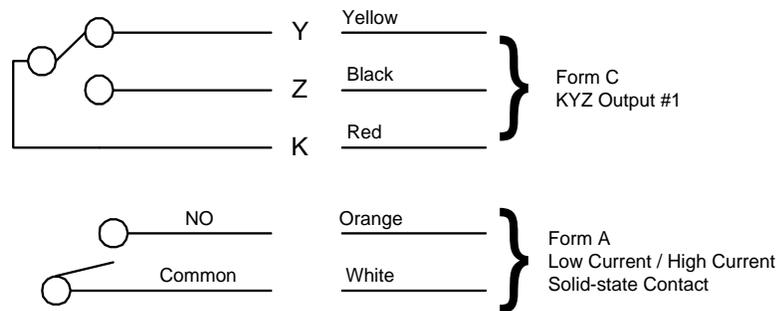

Figure 1.5 Input/Output Option 1
- Option 1 has one Form C KYZ output and one Form A low-current solid-state contact output. (See Figure 1.5 on page 1-7.)